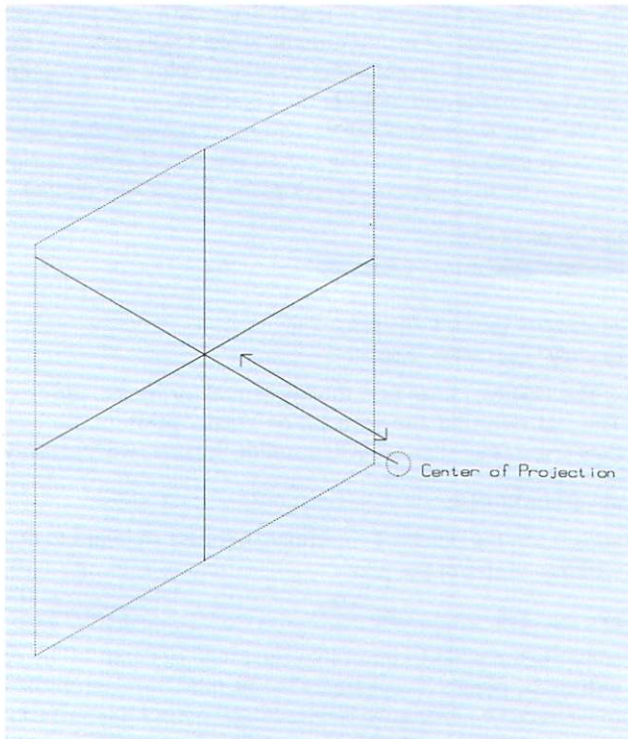

Figure 10: The center of projection specifies the eye location and its distance from the viewplane.
With the pixel's location in 3-D space stored in `px` and `py`, let's build a ray. First, we calculate its origin. Simple: The origin is the eye position and the eye lies on the Z axis. Therefore, the X and Y coordinates are both zero. The Z coordinate is set to the center of projection (eye location) specified in the viewing-description file. Remember, because the viewplane is at the center of the Z axis (0), this value specifies distance from the viewplane. (See Figure 10.)